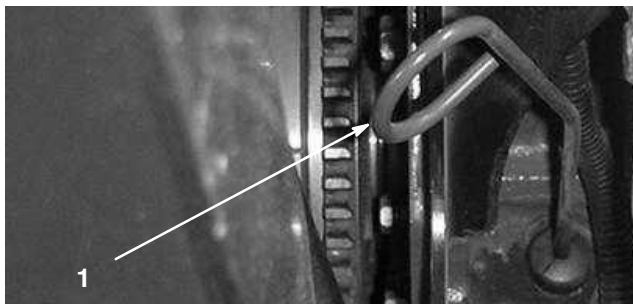

Figure 10
2. Remove the dipstick (Fig. 10) and wipe it with a clean rag. Push the dipstick down into the dipstick tube and make sure that it is seated fully. Pull the dipstick out and check the oil level. If the oil level is low, add enough oil to raise the level to the FULL mark on the dipstick.